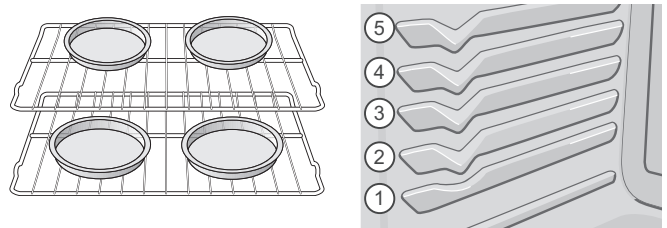

Figure 3: Pan spacing and rack positions
- Allow 2" to 4" (5.1 cm to 10.2 cm) around the pans for proper air circulation. Be sure the pans do not touch each other, the door, sides or back of the oven cavity. (Figure 3)